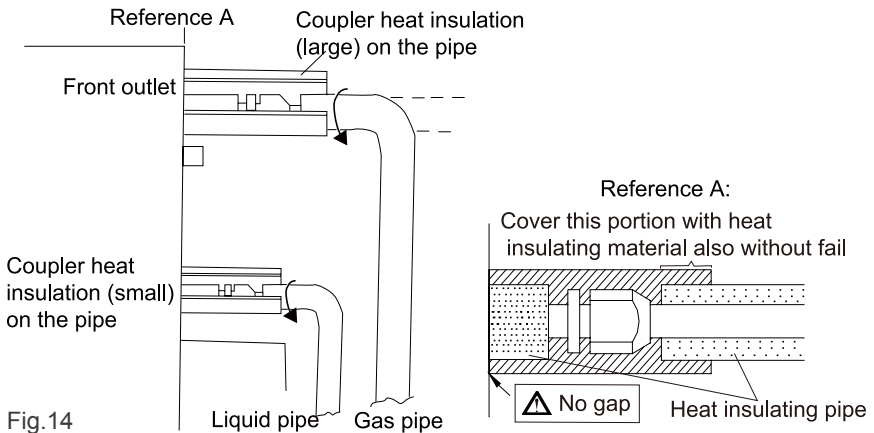

Fig.14
4. When bending the pipe, do not bend it as is. The pipe will be collapsed. In this case, cut the heat insulating pipe with a sharp cutter as shown in Fig.14, and bend it after exposing the pipe. After bending the pipe as you want, be sure to put the heat insulating pipe back on the pipe, and secure it with tape.